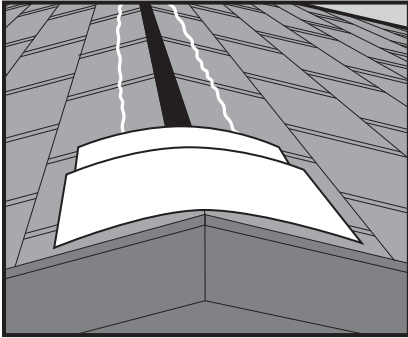

Fig. 3
1) Prior to installing RidgeCat® Vent, cut a minimum 6-inch wide hip & ridge shingle and nail it over the ridge at each rake edge. See Figure 3.